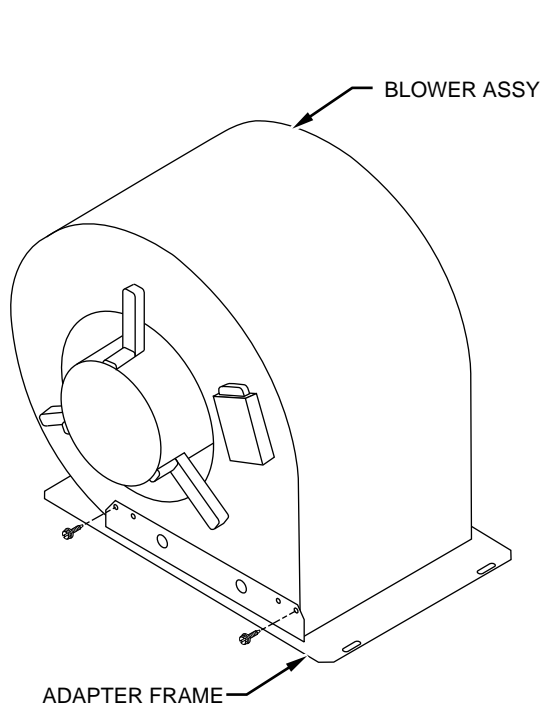

Fig. 6A—Coleman 3400 Series Blower
1. Mount adapter frame, supplied in kit KCACK0101COL, to blower using 4 No. 10 x 5/8-in. screws. (See Fig. 6A or 6B.) The mounting bracket should be flush with blower opening.